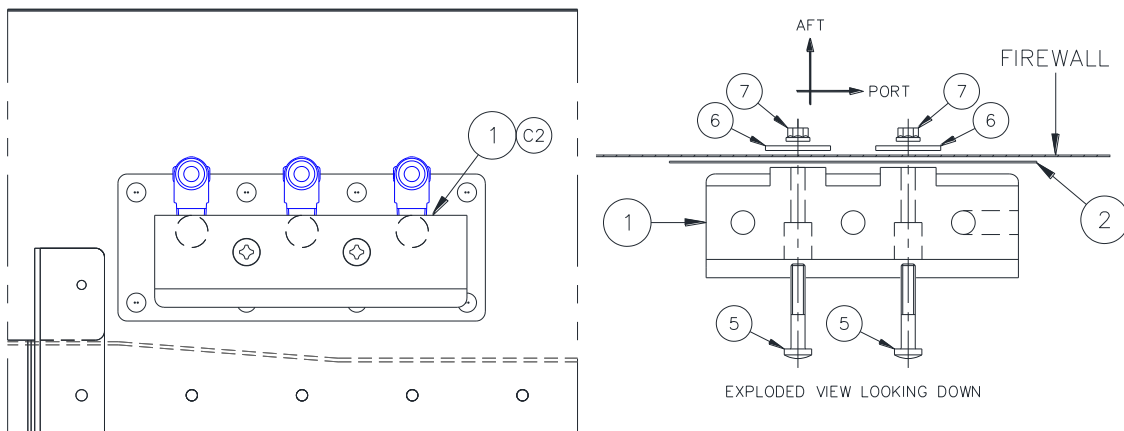

Figure 6: Main view looking aft at the forward face of the firewall. Item 1 assembly fittings have been omitted from the exploded view for clarity.
- Apply a sufficient amount of Item C2 to the faying surfaces of Item 1 and install to the forward face of Item 2 using two each of Item 5, 6 and 7, as per Figure 6.